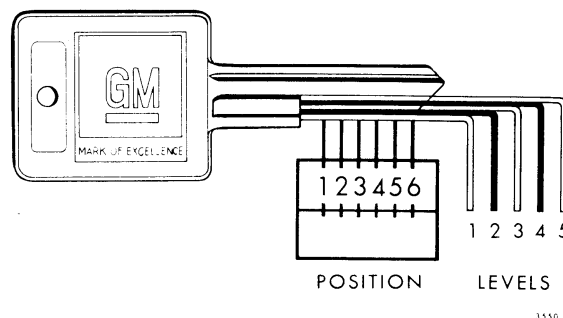

Fig. 1-3-Key Code Diagram
After code number has been recorded by owner, plugs should be knocked out of key head. From these numbers, lock combination can be determined by use of a code list (available to owners of key cutting equipment from equipment suppliers). If key code numbers are not available from records or from "knock-out" plug, lock combination (tumbler numbers and position arrangement) can be determined by laying key on diagram in Figure 1-3.
After the special code has been determined, either from code list or Key Code Diagram (Fig. 1-3) cut blank key to the proper level for each of six tumbler positions, and check key in lock cylinder. The new key should agree with combination opposite code number in code list.
- a. Lay key on Key Code Diagram (Fig. 1-3) with key outlined by diagram as accurately as possible.